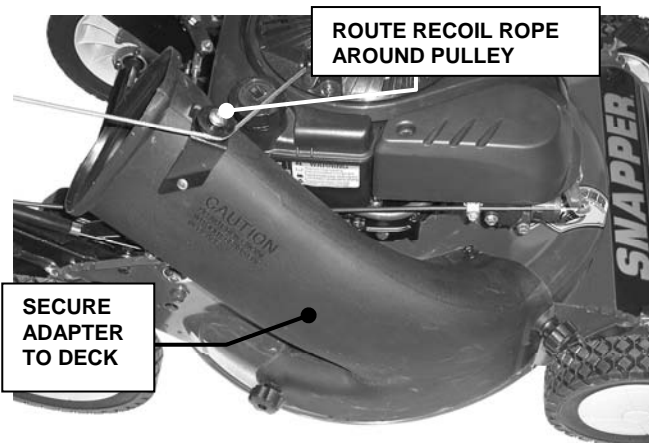

FIGURE 2.10
STEP 2: Install grass bag adapter to the deck in place of recycling cover, making sure that: 1) hole on outside front of adapter fits onto stud in front of discharge opening where front of recycling cover was originally installed, 2) slot on top of adapter slips under restraining nut on top of deck (under right front corner of engine), and 3) slot on bottom rear of adapter slips onto stud behind rear of discharge opening, where rear of recycling cover was originally secured. See Figure 2.10. Install internal/external tooth lock washers and knob nuts on studs and tighten securely.
STEP 3: Route recoil rope around outside of rope guide pulley. See Figure 2.10. (NOTE: Recoil rope may need to be slackened. Refer to "Handle Assembly".)